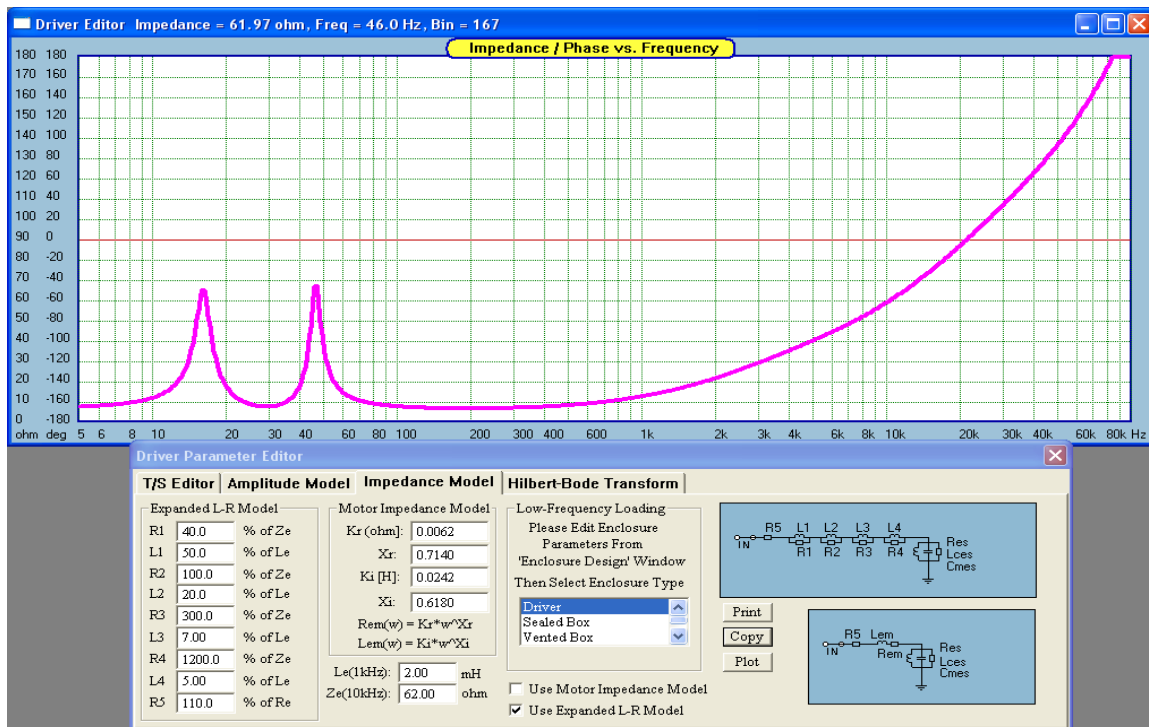

Fig 2.16 Impedance Models
Manual entry of impedance curve is accomplished much the same as the previously described amplitude response - drawing the curve and then using cursor keys to fine tune the plot. The default impedance curve is plotted at 8ohm level. At any point of time, the user can flip between frequency response and impedance curve using 'Edit Amplitude' and 'Edit Impedance' buttons. The currently edited curve will be saved and the newly selected one plotted on the screen. Once again, the 'Edit Impedance' button should be used to clean up the display. See Fig 2.16. Once the whole (5Hz - 100kHz) impedance curve is edited, it can be used as a template for recovering complex impedance. Editing impedance curve over the whole frequency range is important. Slope Correction is also provided for the impedance. This is accomplished via 'Hilbert Transform Function' screen, which was also used for recovering amplitude transfer function.
Two editable impedance models: (1) Quad-LR model and (2) Motor Impedance model, are provided and can be accessed via the main menu. See Fig 2.16. The Quad-LR model requires voice coil inductance as provided by data sheets, often measured at 1kHz and impedance minus DC resistance measured at 20kHz. The four LR sections are then assigned a **percentage** of the values above to fit any given impedance curve. Also R5 in the model can be different from the DC resistance of the driver.
In the second example, shown on Figure 2.16, is a “quad-box”. The box is quite large (400 lt) and would be suitable for 4 x 13” low-frequency drivers intended for a bass guitar application. Bracing used is the same type as in the first example. Please note, that the port required to do the job, is actually quite short (14.78cm) and you could afford to increase the diameter of the port in order to reduce port compression/non-linearity effects.